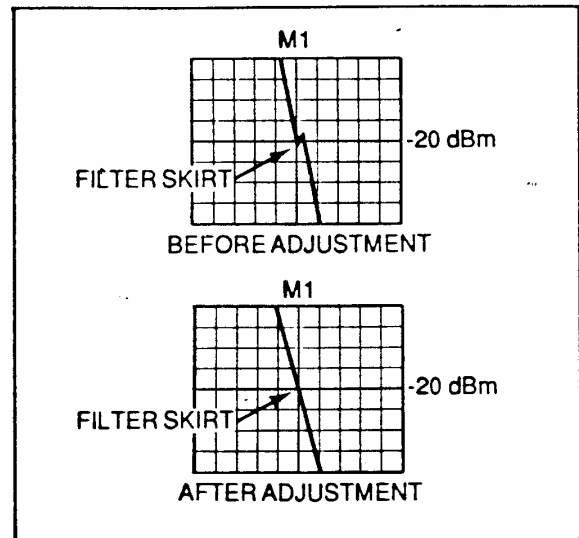

Figure 6-10. R71 Adjustment: Before and After.
5. Adjust R71 to obtain a smooth trace. The range change should be visible as R71 is adjusted (Figure 6-10).